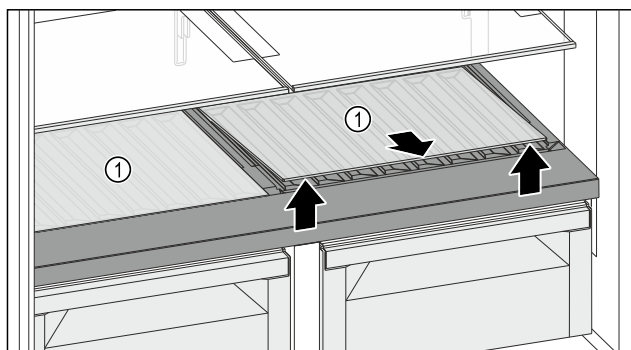

Fig. 125
- Lift one or both of the glass shelves Fig. 125 (1) in the front at the recess and pull it/them out.
- Store the glass shelf(ves) Fig. 125 (1) somewhere safe outside of the appliance.